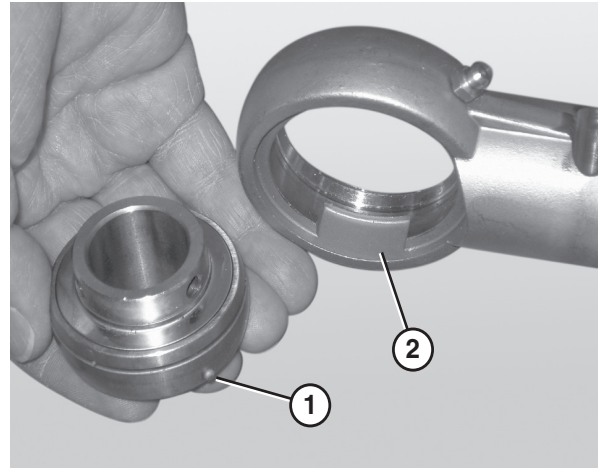

Figure 81
4. Remove the worn or damaged bearing (**Figure 81**) to 54 in•lbs. Check after 24 hours of conveyor use.
*When inserting the new bearing, make sure the anti-rotation notch (**Figure 81, item 1**) on the bearing lines up with the groove inside the housing (**Figure 81, item 2**).*